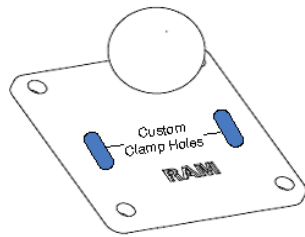

Figure 2-3: Surface (wall/beam/pole) mounting ball plate (square)
- Surface mounting ball plate (square, see Figure 2.3)